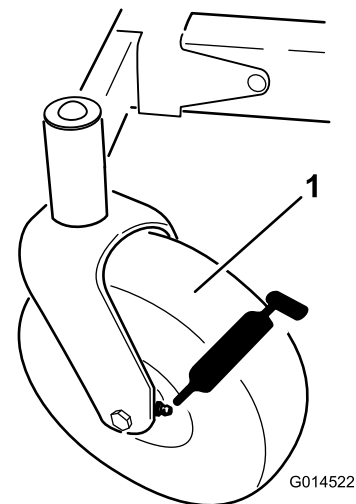
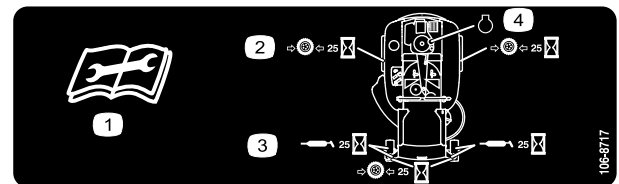

Figure 25
Figure 26
3. Clean the grease fittings (Figure 25 and Figure 26) with a rag. Make sure to scrape any paint off of the front of the fitting(s).
4. Connect a grease gun to each fitting (Figure 25 and Figure 26). Pump grease into the fittings until grease begins to ooze out of the bearings.